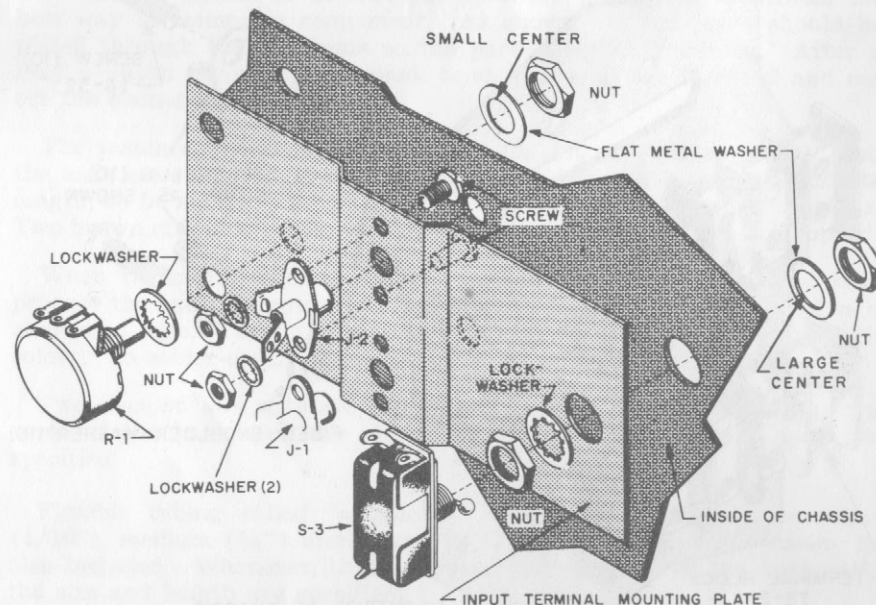

FIGURE 11. INPUT TERMINAL MOUNTING DETAIL
SEE FIGURE 11.
- ☑ Position the input terminal mounting plate so the side with the 2 large holes faces as shown in Figure 11.
- ☑ Mount R-1, the 500KΩ A LEVEL control (with short shaft) as shown in Figure 11.